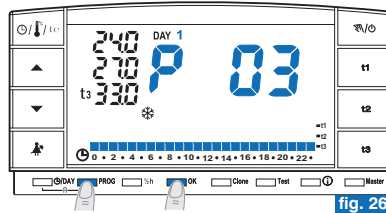

fig. 26
- use the **PROG** key to select the new program and confirm with the **OK** key (example in figure 26).